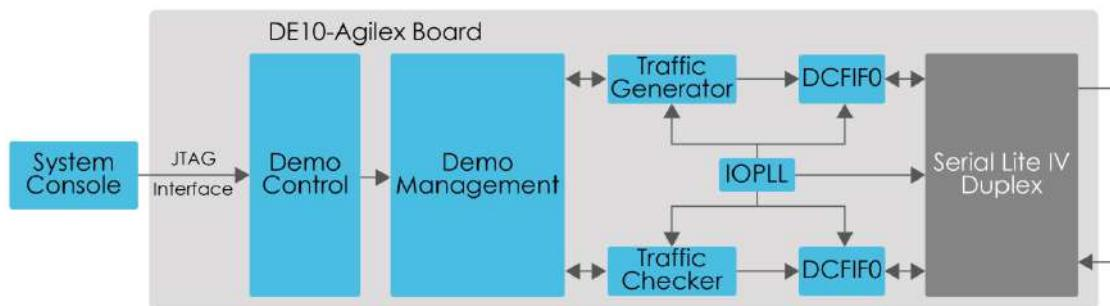

Figure 9-13 Block diagram of CPRI PHY demo
**Figure 9-13** shows the block diagram of this demonstration. This demonstration will provide a transmission example of 2 lane transceivers with PAM4 modulation (the data